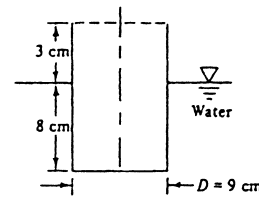

Fig. P2.104
**2.104** The can in Fig. P2.104 floats in the position shown. What is its weight in newtons?